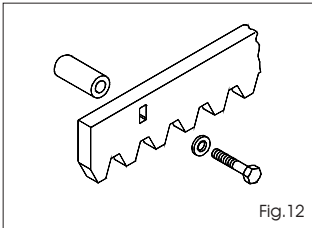

Fig. 12
**5.4.2. Steel rack to screw (Fig. 12)**